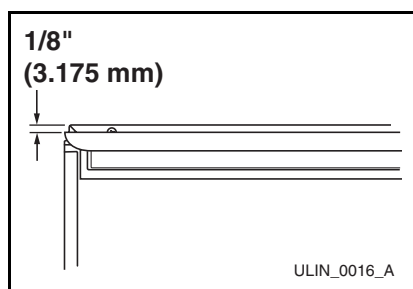

Figure 18
1. Compare the top edge of the door (opposite the hinges) to the top edge of the cabinet (**Figure 18**) and note the type (up or down) of adjustment needed.